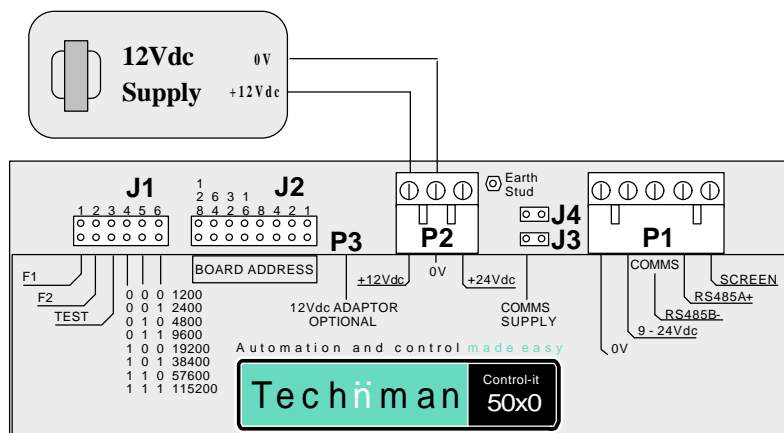
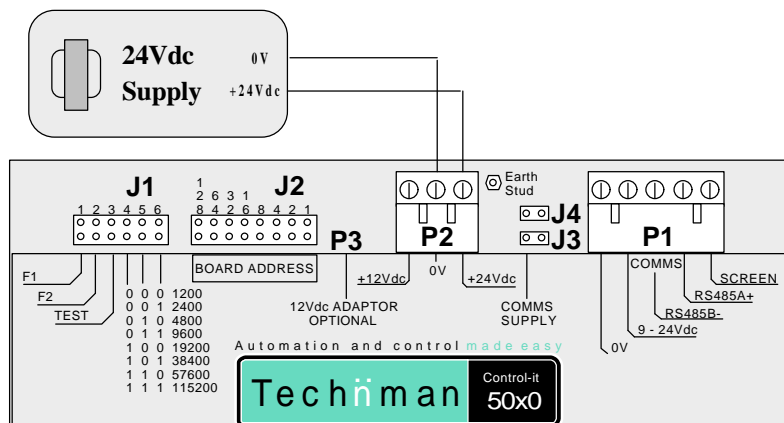

Figure 12 - 12Vdc power supply to **Control-it™ 5050**
Figure 13 - 24Vdc power supply to **Control-it™ 5050**
- Figure 12 shows the 12V connections and Figure 13 shows the 24V connections.